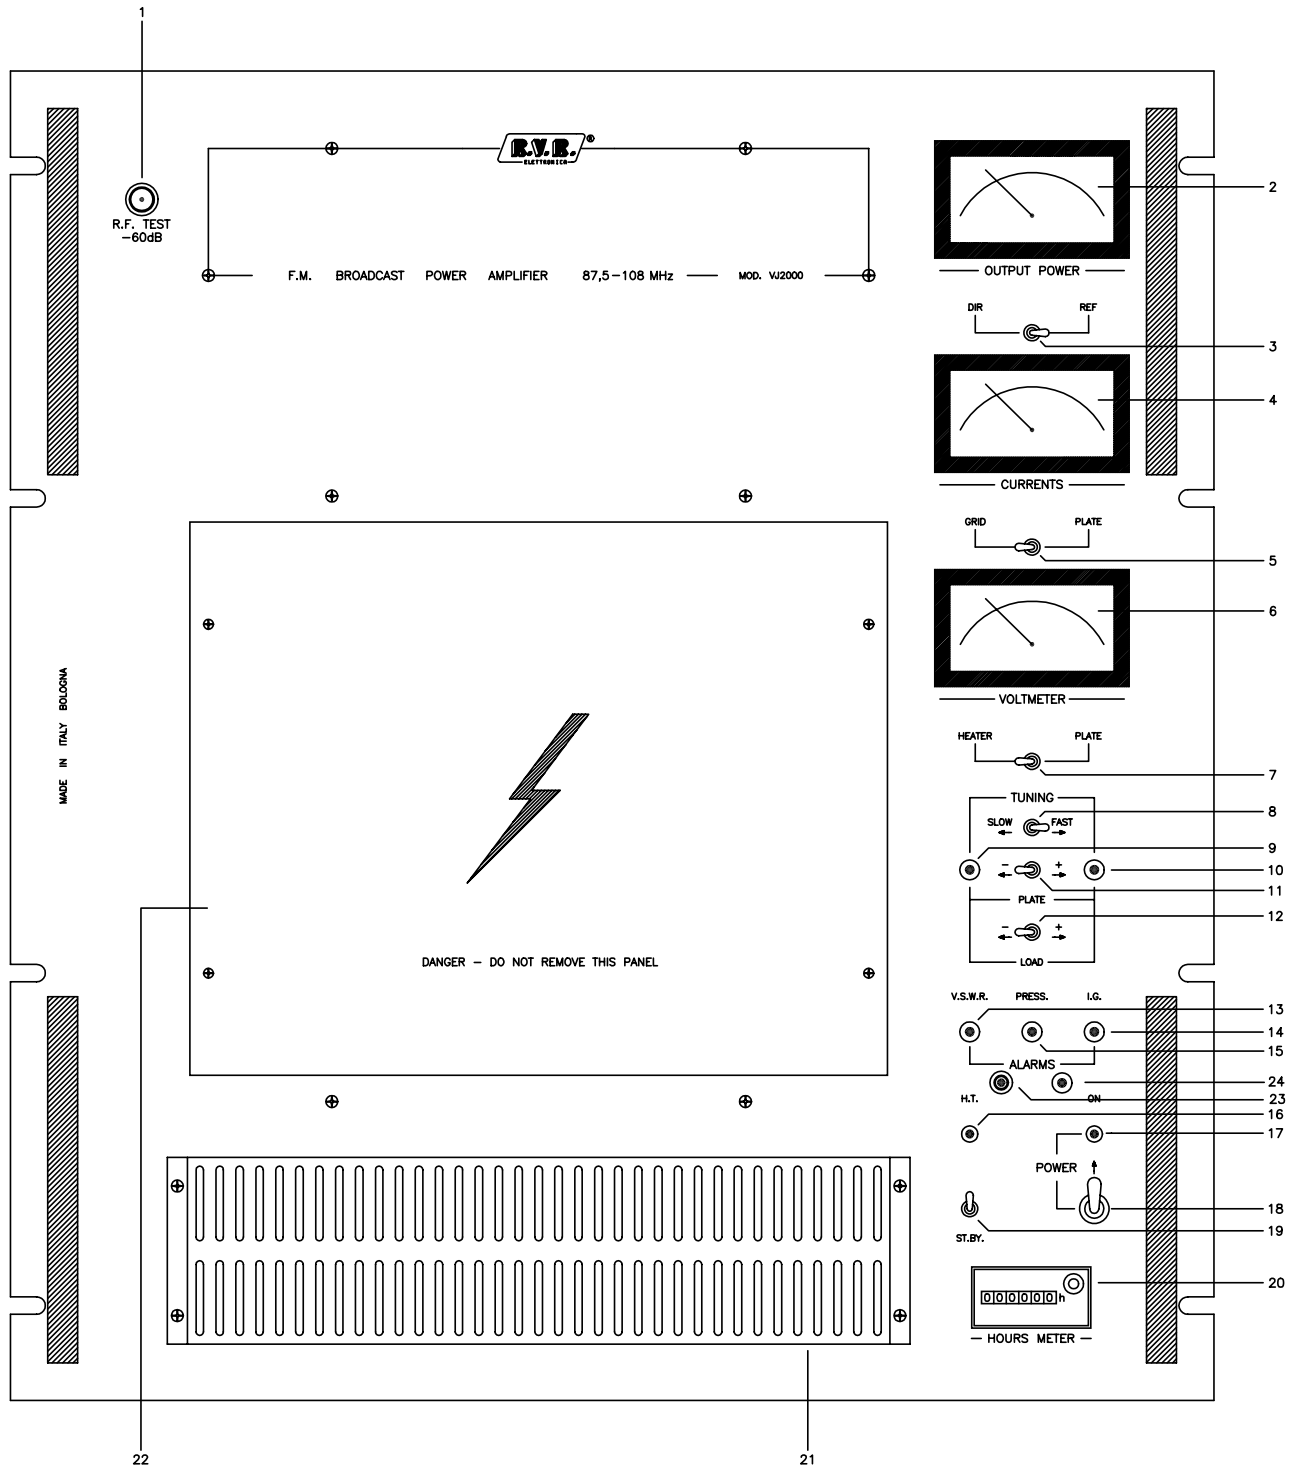

FIG. 1
FRONT PANEL VIEW DESCRIPTION (FIG. 1)
- 1) Unscrew the screws holding the high voltage front panel (22 Fig.1) and open it.